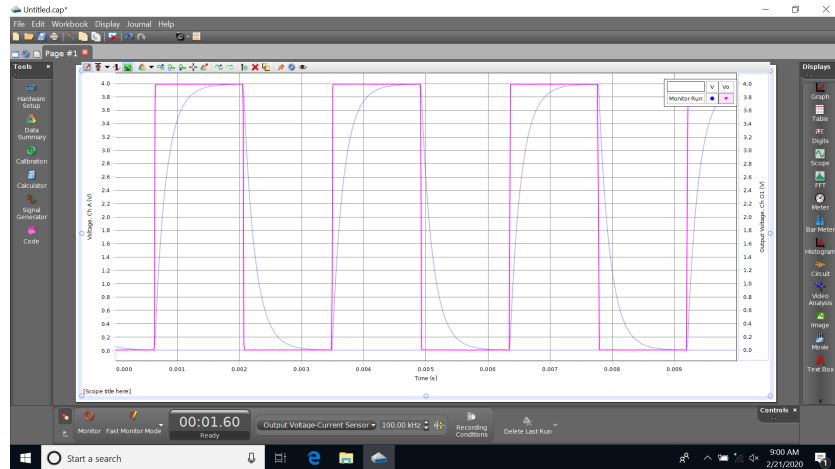

Figure 7: Scope showing the voltage across the capacitor and the output voltage
2. Click Monitor and Verify your scope is working correctly like the one shown in Figure 7.
5. Click Monitor and Verify your scope is working correctly like the one shown in Figure 7.